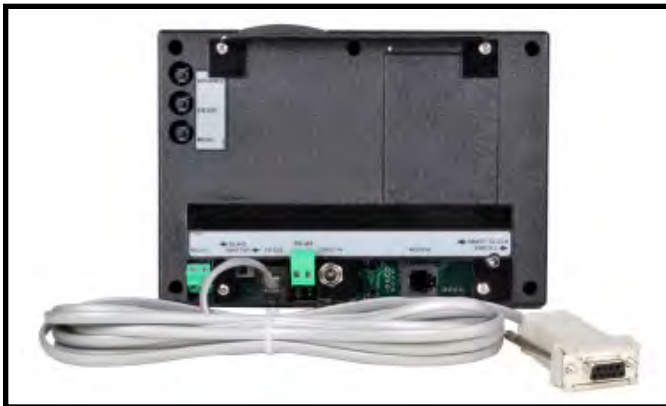

Figure 5. Connecting the telephone cord and RS-232 / Serial Port Adapter to the Smart Clock
- II. Connect the other end of the telephone cable into the RS-232 jack located on the RS-232 / Serial Port Adapter (see Figure 5).